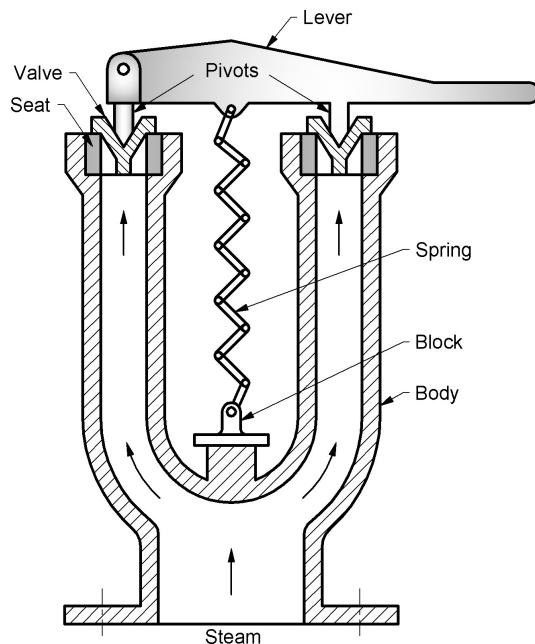

Fig. 2.9 Spring loaded valve
- Fig. 2.9 shows schematic diagram of Rams bottom spring loaded safety valve which is commonly used in locomotive boiler. This valve uses spring and lever mechanism.